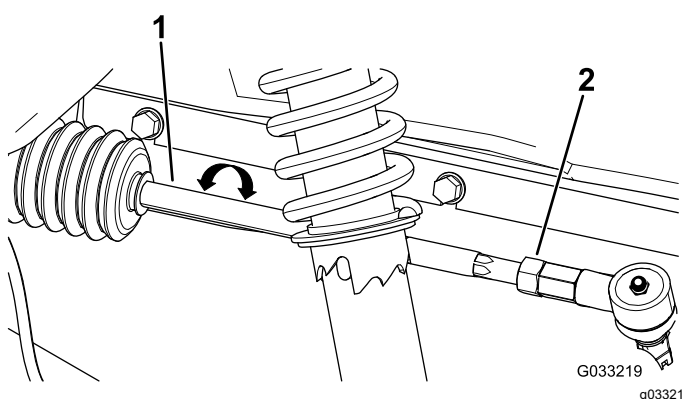

Figure 53
- If the measurement does not fall within 0 to +/- 3 mm (0 to +/- 1/8 inch), loosen the jam nuts at the outer end of the tie rods (Figure 53).